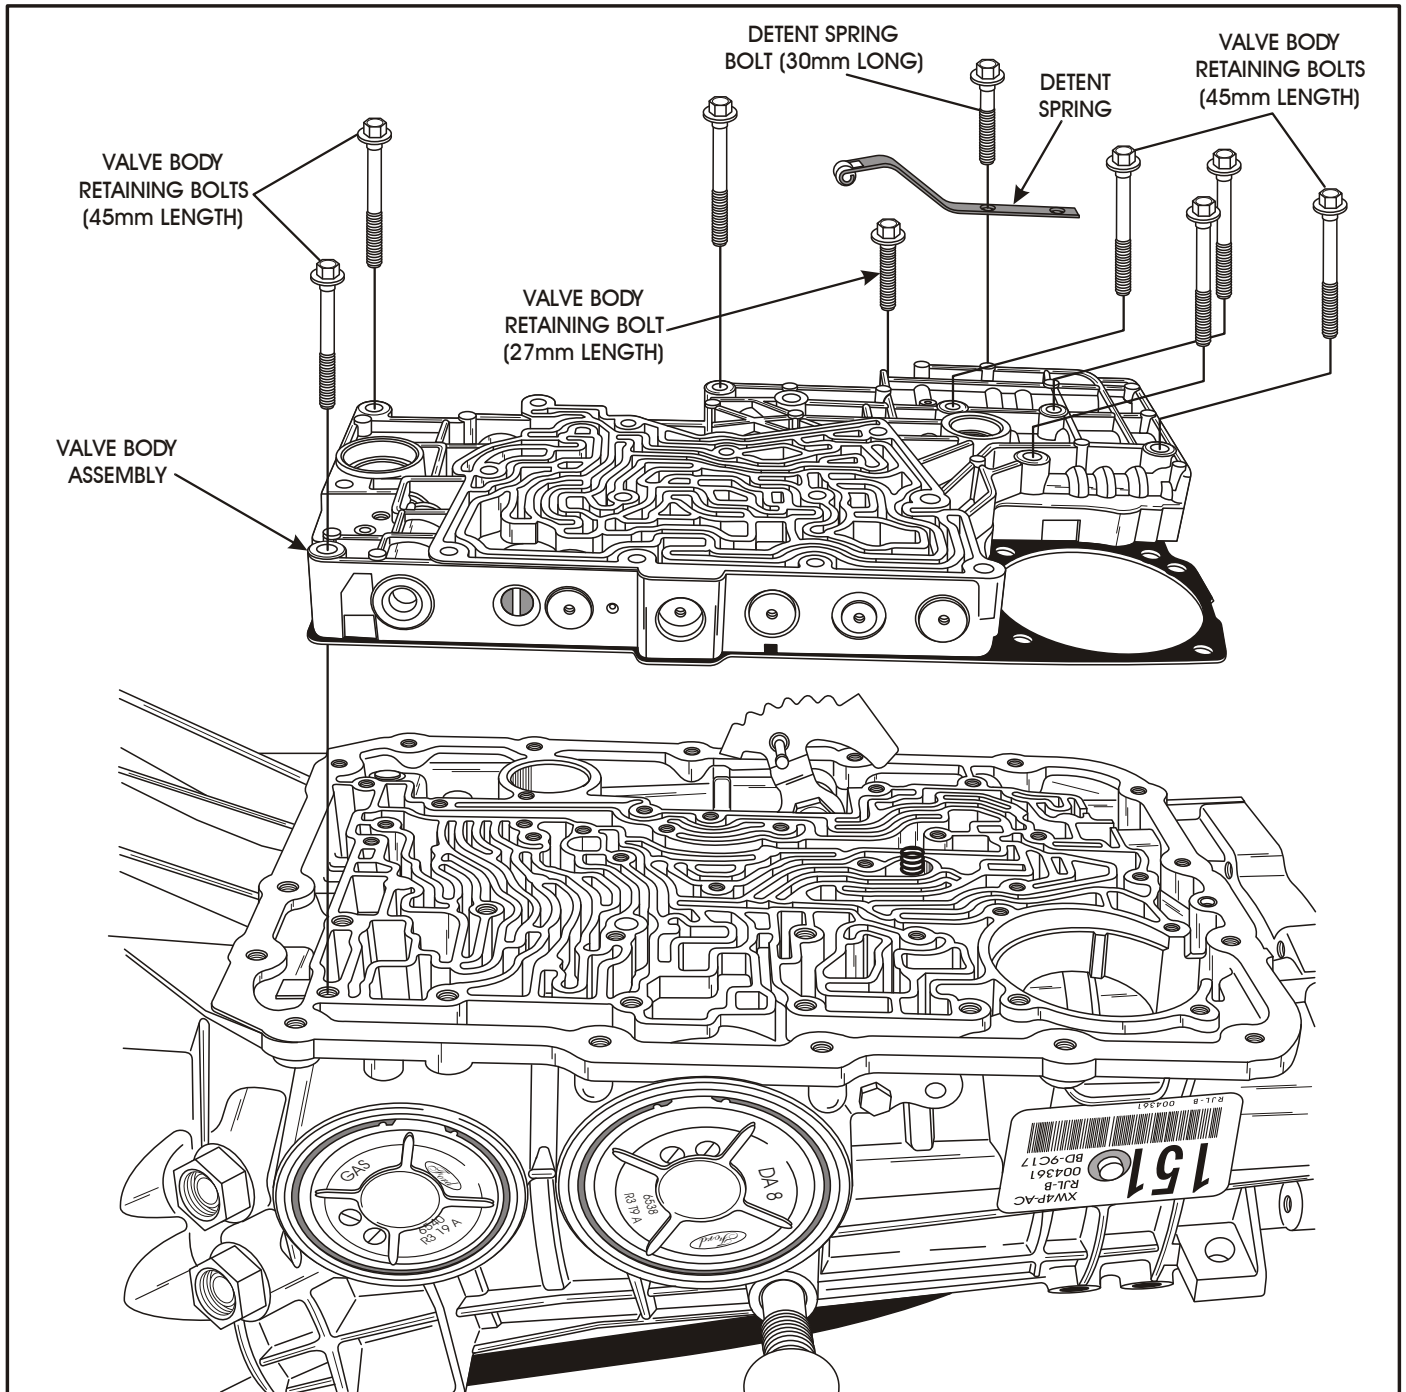

Figure 33
24. Remove the retaining bolt for the detent spring and remove detent spring (See Figure 33).
25. Remove the valve body retaining bolt directly in front of the detent spring (See Figure 33).
26. Remove the remaining 7 valve body retaining bolts, as shown in Figure 33.
27. Remove the complete valve body and spacer plate assembly and set aside for the component rebuild section (See Figure 33).